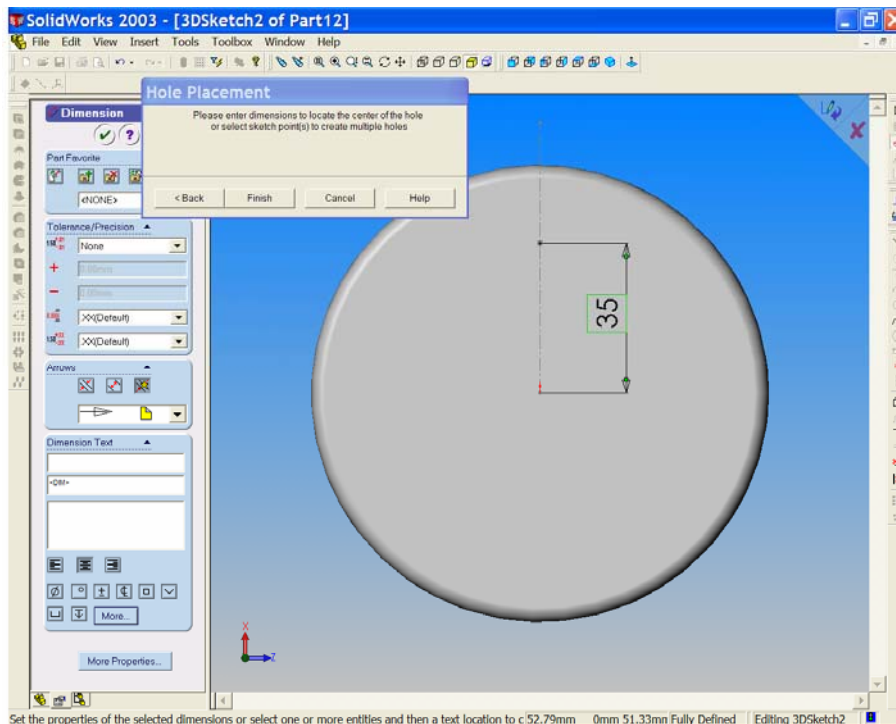

Figure 4
9. Select 'Finish' from the 'Hole Placement' window. The hole is generated and the feature is added to the design tree. See Figure 4 & 5.